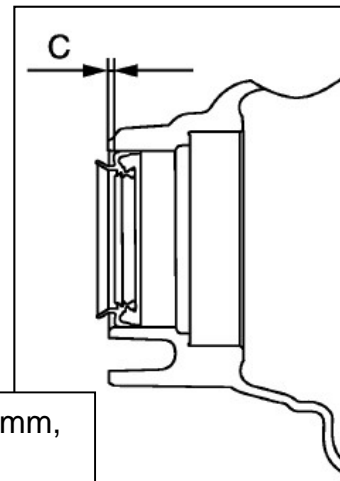

Figure 216
- Drive the differential side oil seal in until the amount of oil seal protrusion from the CVT case edge matches dimension C shown in Figure 216.